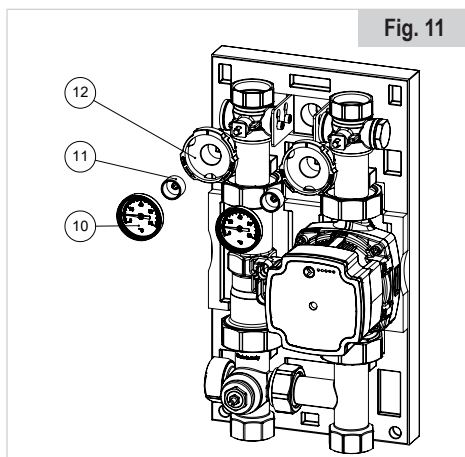

Fig. 11
- Remove the temperature gauges (10) using a flat screwdriver, the temperature gauge pockets (11) using a 6 mm Allen key, the handles (12) and reposition them by inverting the red handle with the blue one. (see **Fig. 11**). It is not necessary to disassemble the ball valves from the bracket.